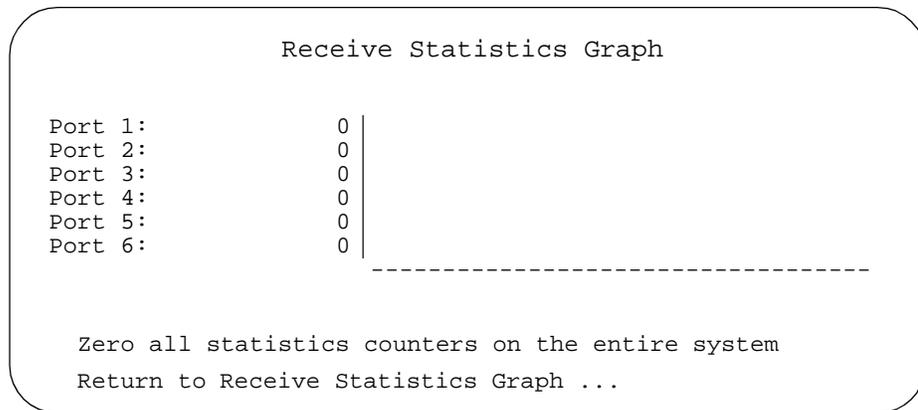

Figure 53 Sample Graph of a Single Frame Type on All Ports
- b. Select a frame type from the Receive Frames window. The statistics for the selected frame type for all of the ports is displayed. A example is shown in Figure 53.